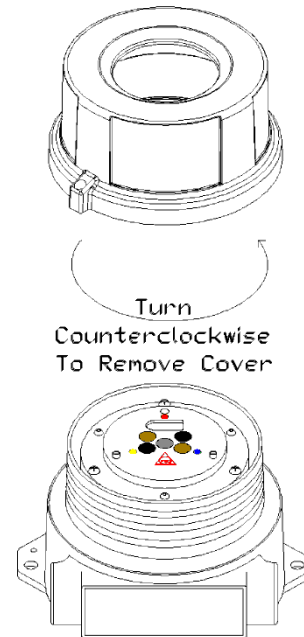

Figure 2-7
5. Turn counterclockwise (CCW) to unscrew the enclosure lid (see Figure 2-7).